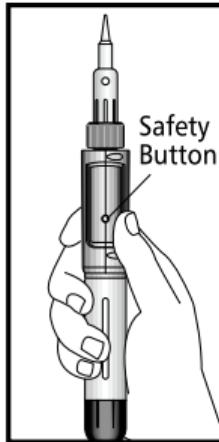

Fig.4
2. While pushing in and holding the **SAFETY BUTTON** (Fig. 4)